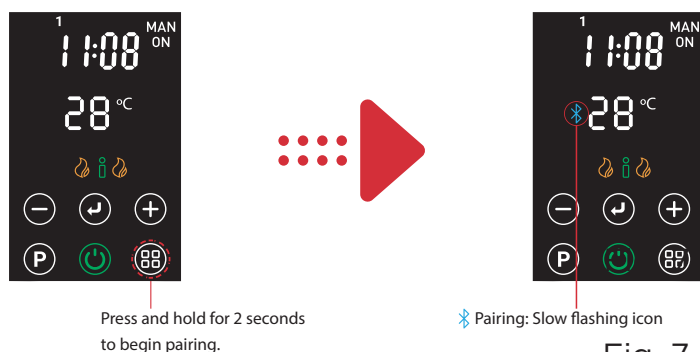

Fig. 7
2. To initiate pairing mode on the appliance press and hold the '88' key for two seconds. The wireless connectivity logo  will start flashing, see Fig. 7. This indicates that the device is advertising to be paired with the app. - This step is only required for initial pairing; in future the product will automatically search for a previously connected device for 200 seconds. If previous device is not found after 200 seconds the appliance will then exit pairing mode and the wireless connectivity icon will turn off.